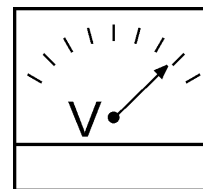

Figure 45. Voltmeter
7. The generator's ACvoltage meter (Figure 45) will display the generator's output in **VOLTS**.